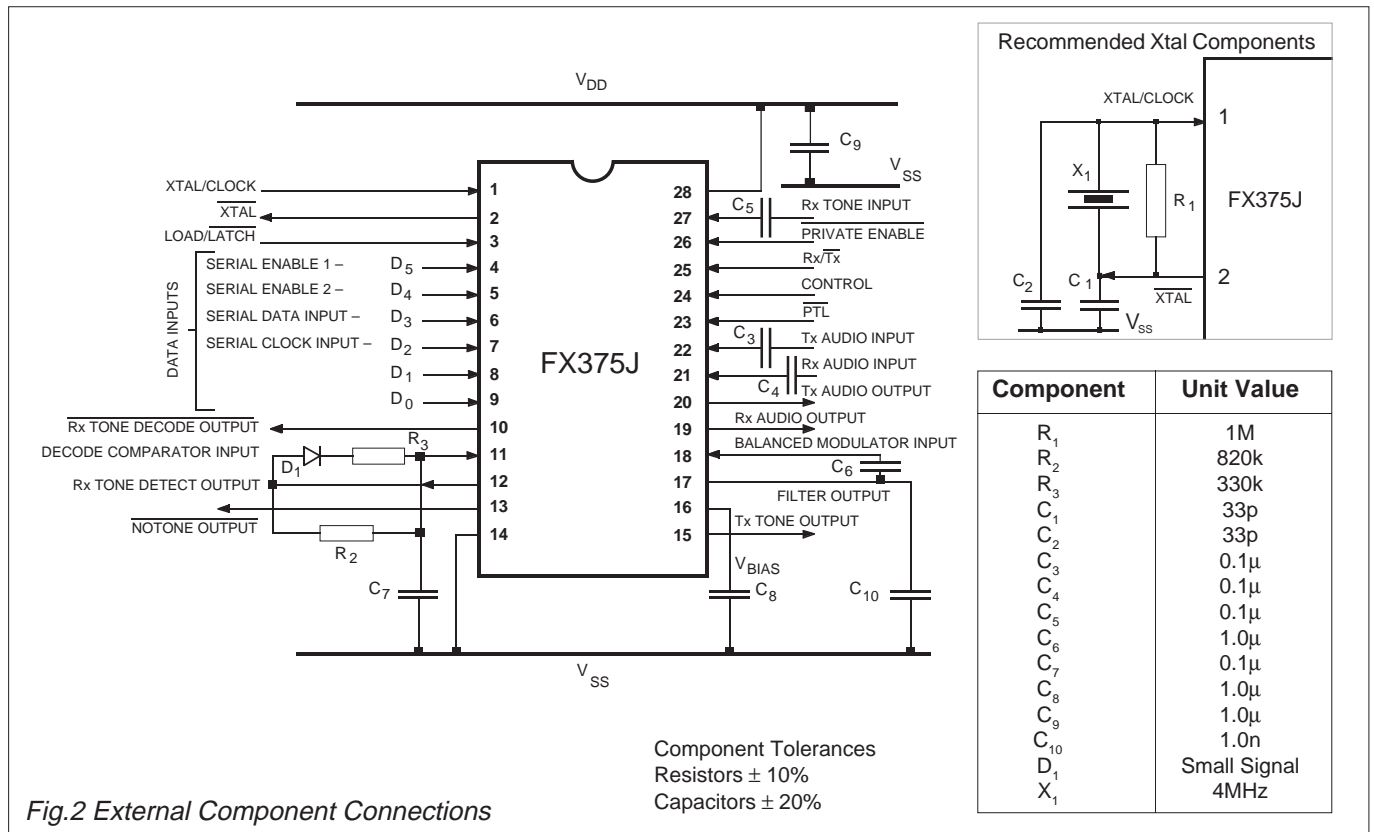

Fig.2 External Component Connections
- The functions in this table are applicable when the device is connected as recommended in Figure 2.